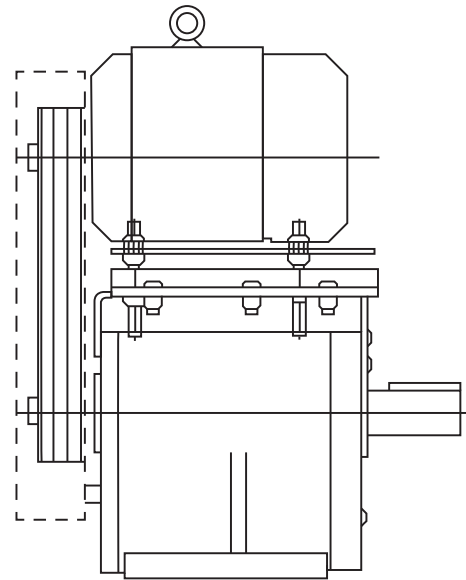

Figure 6 - Top Motor Mount
Refer to Figures 6 and 7 while installing the top motor mount. Remove the upper four bolts (10) and (13) from the input and output covers.